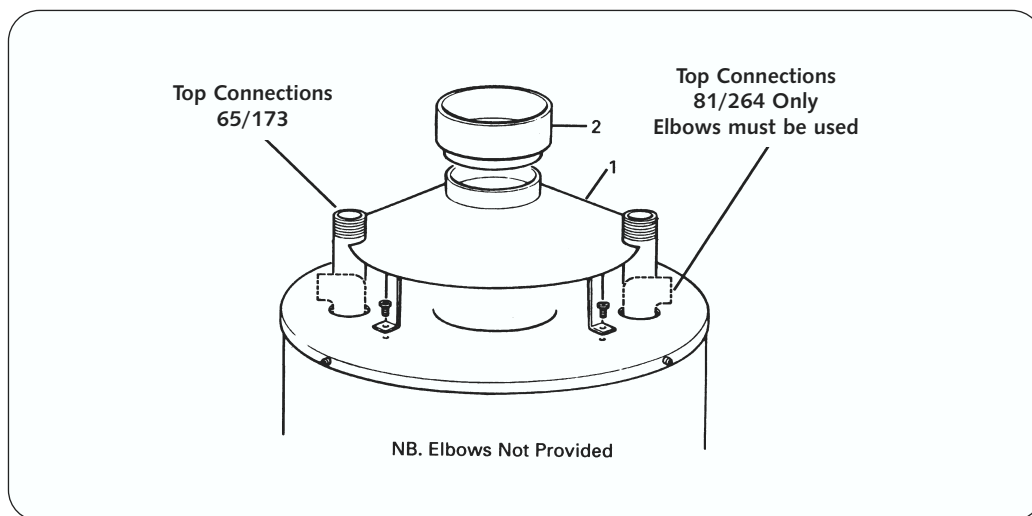

**Fig. 1**
The draught diverter must be assembled with the legs provided. Attach the legs to the draught diverter with the nuts and bolts provided. Fit the draught diverter (1) as shown in Fig.1 to the water heater using the screws provided. For Standard Range fit the draught diverter to the top of the water heater using the location holes.
Fit the adaptor socket (2) and caulk into the draught diverter as shown in Fig. 1.